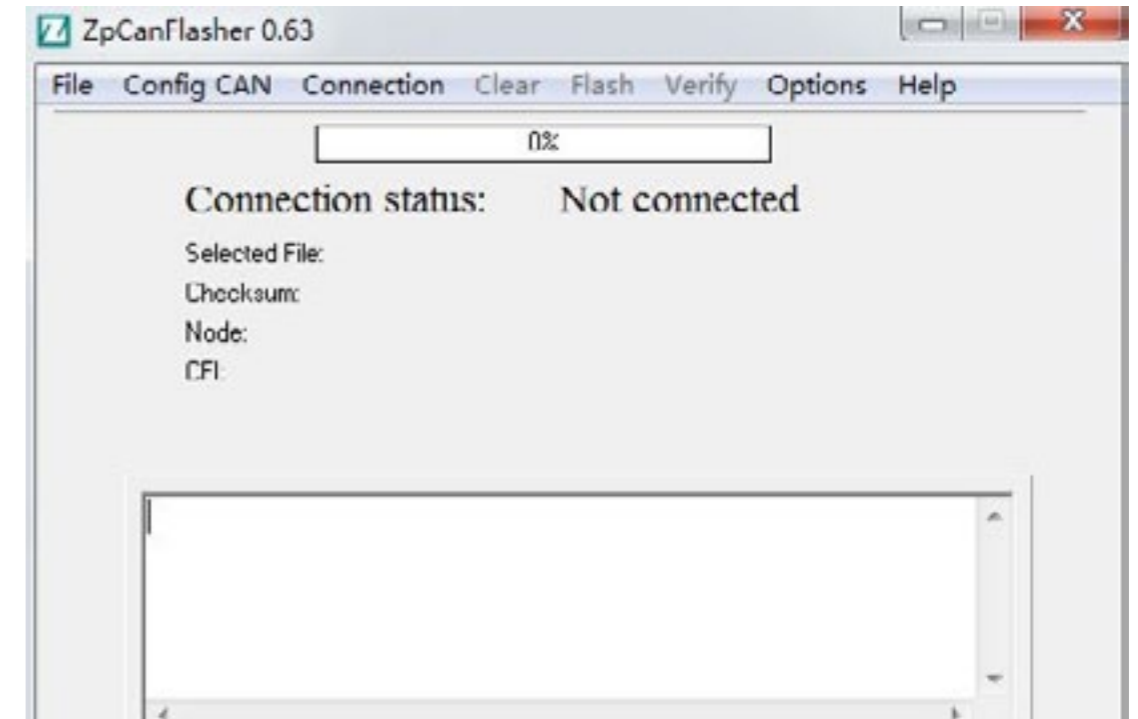

Fig.1.1.3
1. Open the software “ZpCanFlasher”, as shown in Fig.1.1.3.